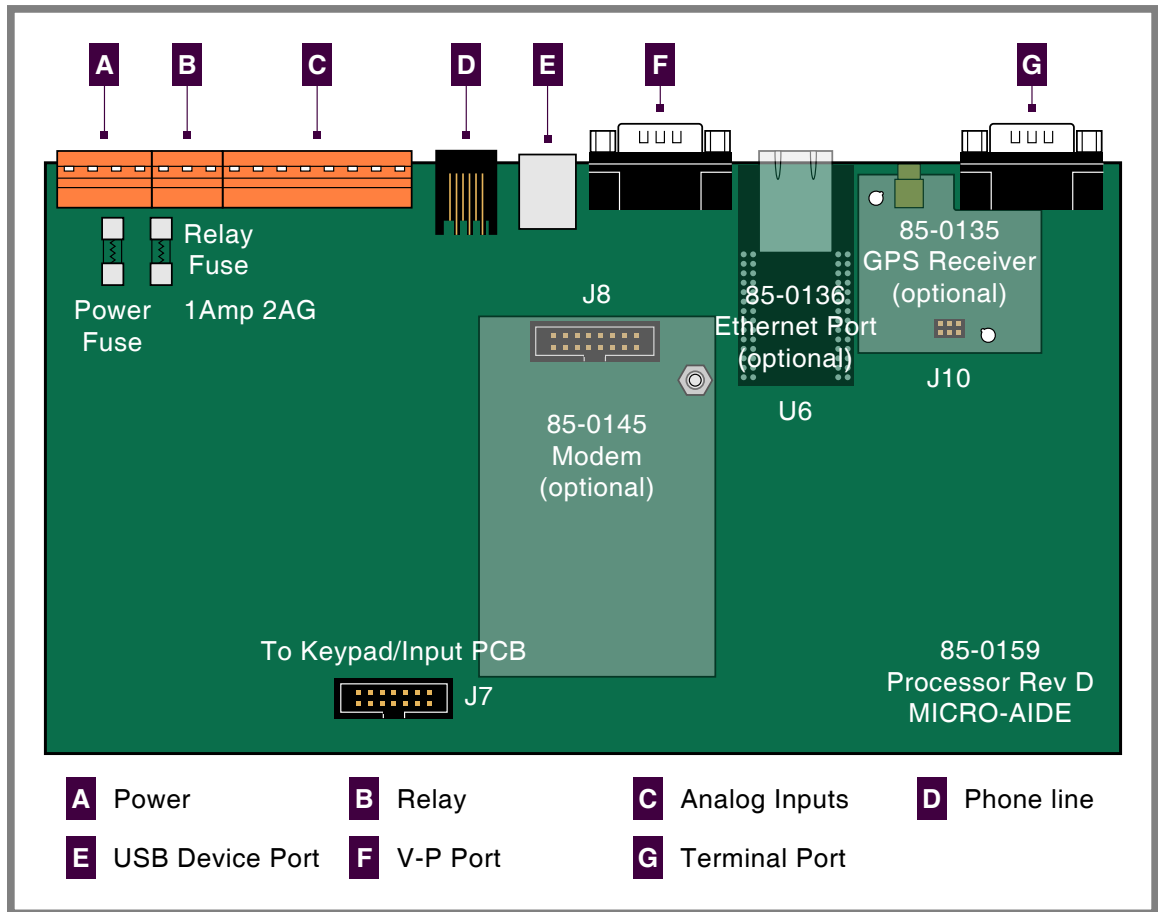

Figure 6: Processor PCB
There are two fuses mounted on the Processor PCB. The fuses are designed to protect the input power source and the contacts of the output relay. Each are rated at 1 A and conform to the 2AG size standard. Before replacing a fuse the cause of the blown fuse should be ascertained and cleared if possible. The fuses are illustrated in Figure 6 on page 77.
Generally, the GPS Receiver is ordered at the time the logger is purchased and is pre-installed at the factory. If the receiver was not previously ordered, it can be installed by the user. To install the receiver follow the steps listed in the following. The GPS Receiver PCB is illustrated in Figure 6 on page 77.
3. Locate the 6-pin female socket labeled "J10" near the top-right edge of the Processor PCB. The socket is illustrated in Figure 6 on page 77.
Generally, the modem PCB is ordered at the time the logger is purchased and is pre-installed at the factory. If the modem was not previously ordered, it can be installed by the user. To install the modem follow the steps listed in the following. The modem is illustrated in Figure 6 on page 77.
2. Locate the 16-pin female socket labeled "J8" near the center of the Processor PCB. The socket is illustrated in Figure 6 on page 77.
3. Locate the 56-pin female socket labeled "U6" along the upper edge of the Processor PCB. The socket is illustrated in Figure 6 on page 77.